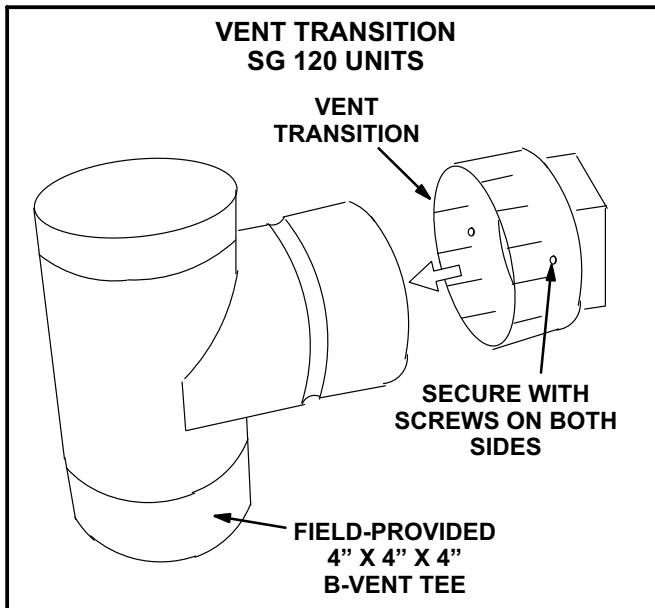
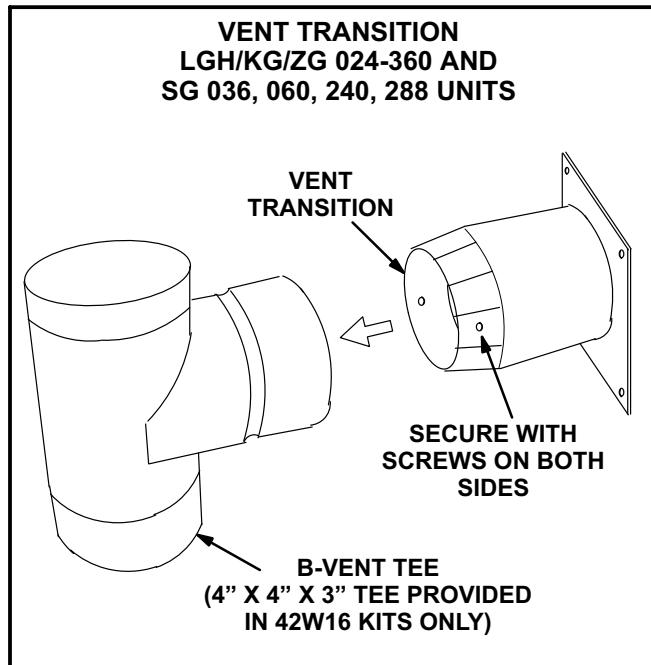

FIGURE 1
FIGURE 2
- 3- Install vent transition in field-provided B vent tee as shown in figure 1 for SG 120 units. See figure 2 for all other units.